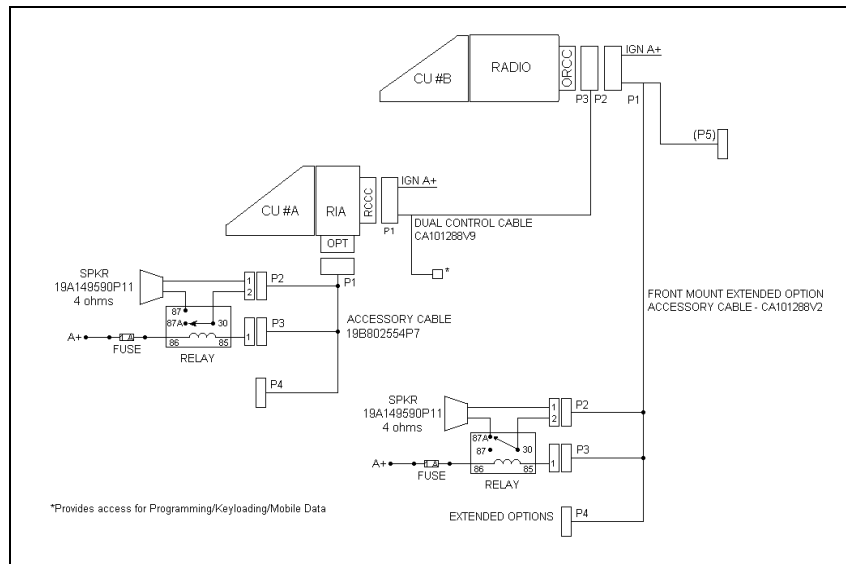

Figure 24 – M7100^{IP} Dual Control Unit Front Mount/Remote Mount Installation Configuration
1. Referring to Figure 24, run the Dual Control Cable (19B802554P9) between locations for the Radio Unit and Auxiliary Control Unit. Be sure to locate the P2/P3 connector assembly at the Radio Unit.
- B. Hardwire each speaker directly (without relays) as shown in Figure 24.
9. Radio Unit Speaker: Connect the lead nearest the speaker to Pin 87A of the relay. Connect the lead nearest the connector to Pin 30 of the relay. Connect the connector to the Accessory Cable P2 (Refer to Figure 24).
10. Auxiliary Control Unit Speaker: Connect the lead nearest the speaker to Pin 87 of the relay. Connect the lead nearest the connector to Pin 30 of the relay. Connect the connector to the Accessory Cable P2 (Refer to Figure 24).
11. For each relay: Connect a #18 AWG black wire between the relay, Pin 85 and Accessory Cable P3-1 (labeled **“OUT2”** on the schematic diagrams in the service manual). Use a 1/4” tab receptacle on the relay side and mating Molex connector and pins on the accessory cable side. Connect the mating Molex connector to the Accessory Cable P3 when finished (Refer to Figure 24).
12. For each relay: Connect a #18 AWG red wire to the relay, Pin 86. Cut to length, and connect to the 1A fuse holder (supplied). Use crimp on connectors supplied. Connect the other side of the 1 amp fuse holder to A+ battery source or vehicle A+ fuse block. Use #18 AWG red wire and ring lug supplied, if needed (see Figure 24).